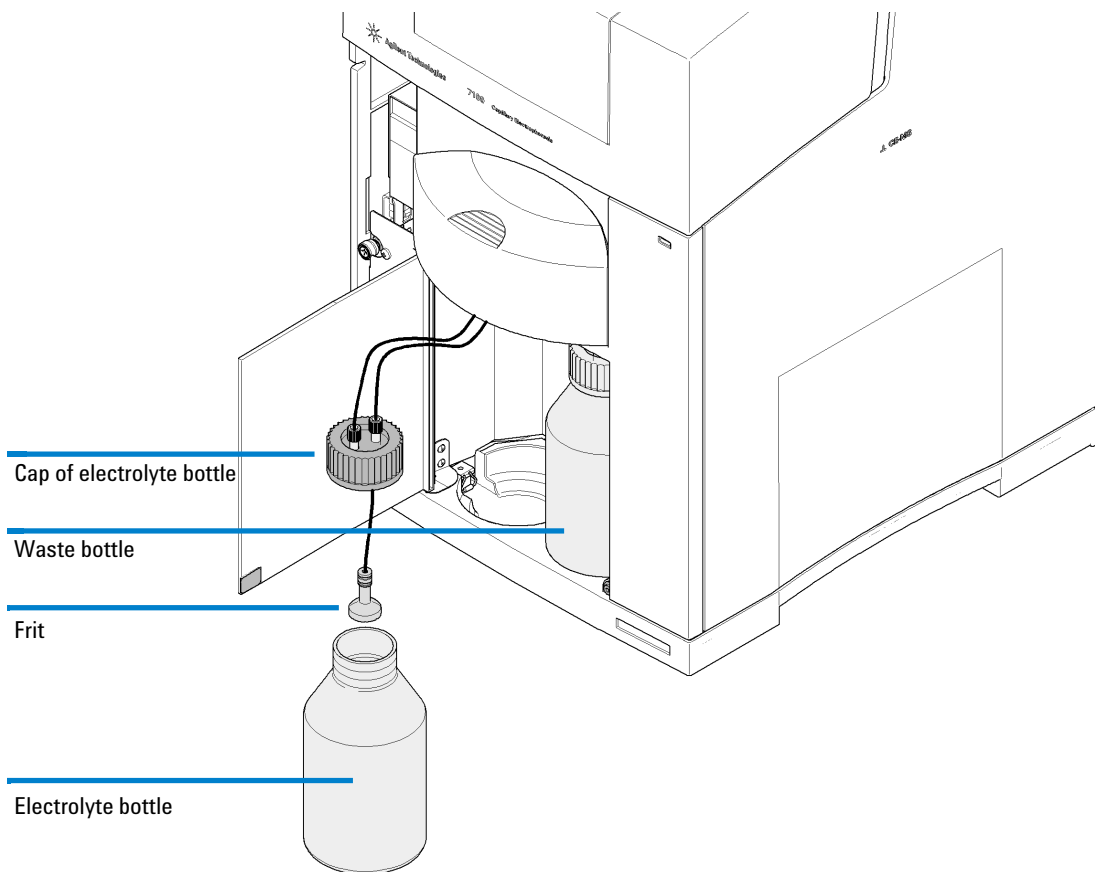

Figure 24 Filling the replenishment bottles
- 4 Take out the electrolyte bottle and unscrew the cap. The electrolyte bottle has a frit and tubing inside. Avoid contaminating the frit (see Figure 24 on page 127).